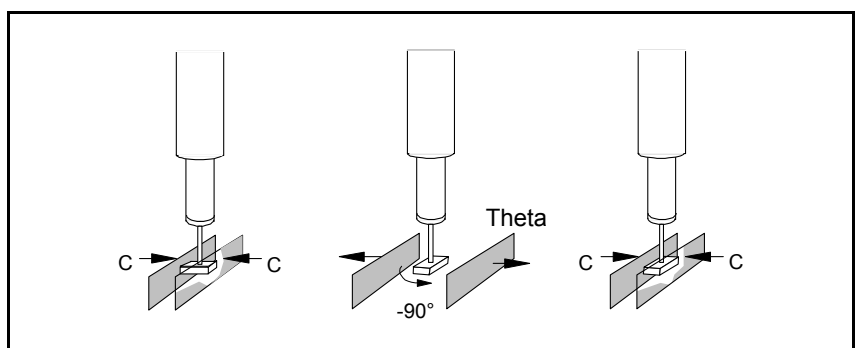

Figure 3-3. Mechanical centering and verifying
- If mechanical centering is used, two centering jaws (one on each side of the component, see Figure 3-3) move symmetrically in a **C movement** towards each other, until they are both in contact with the component, which is moved to the middle of the tool (centering and aligning). In this position the external dimension and, for certain components, electrical data are measured. The centering jaws then retract.